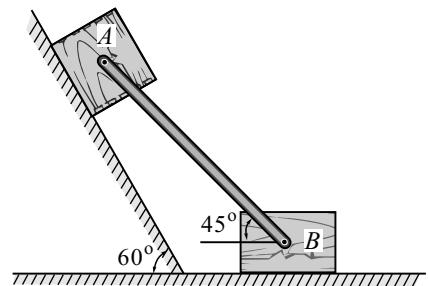

Fig. 8.7
Two blocks $A = 100 \text{ N}$ and $B = W$ are connected by a rod at their ends by frictionless hinges as shown in Fig. 8.7. Find the weight of block $B (W)$ required for limiting equilibrium of the system if coefficient of friction at all sliding surface is 0.3.